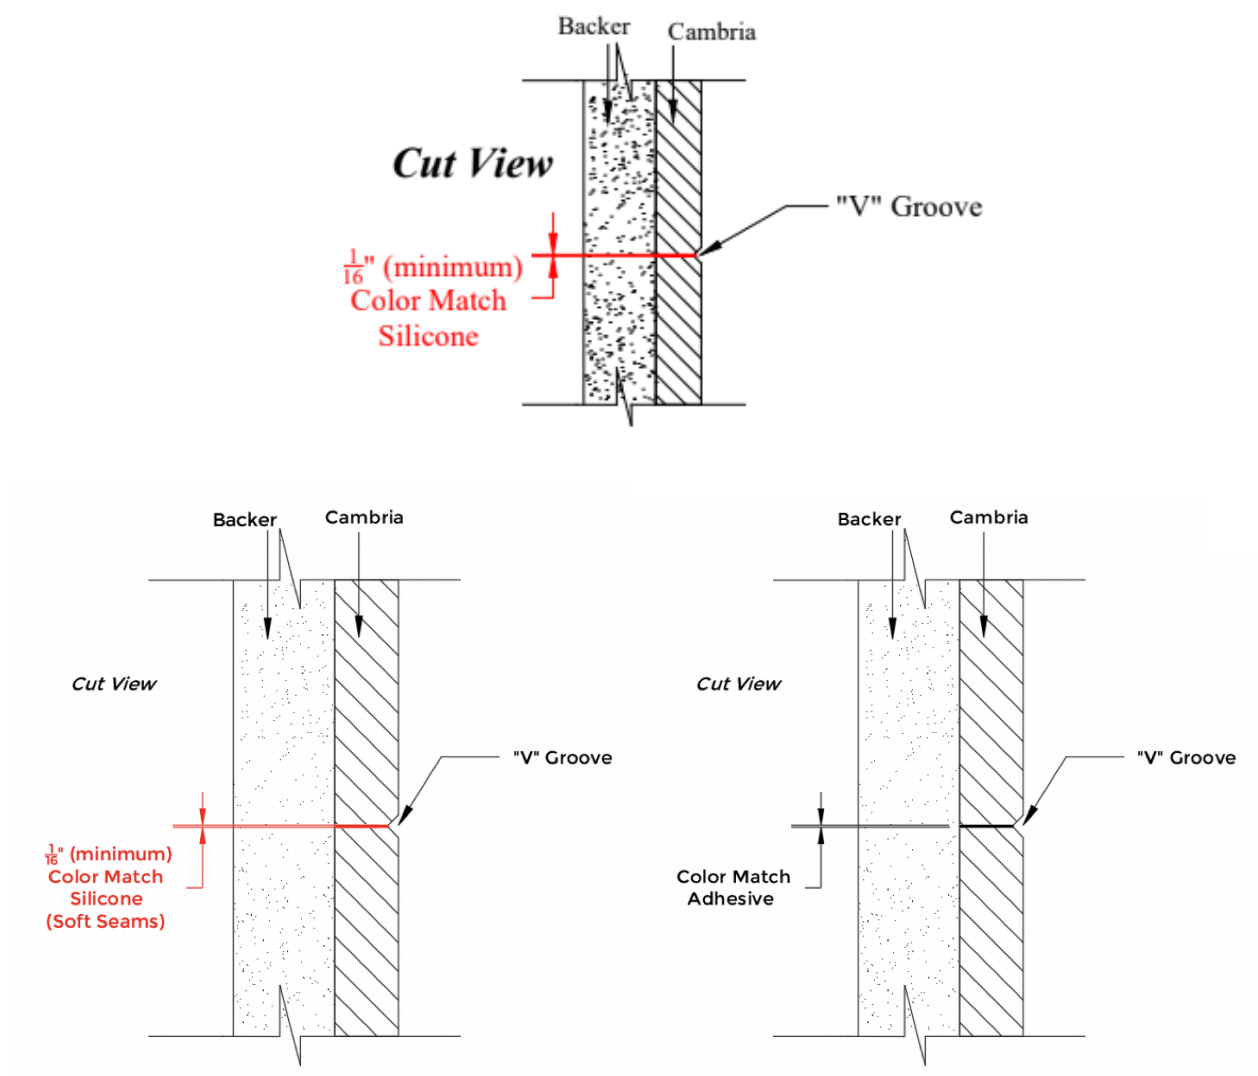

Figure 9
18. The edge of the seam of adjoining pieces can have a polished eased edge applied to create a "V-Groove" to further accent the seam or as a design aesthetic for the installed Cambria product. **See Figure 9.**